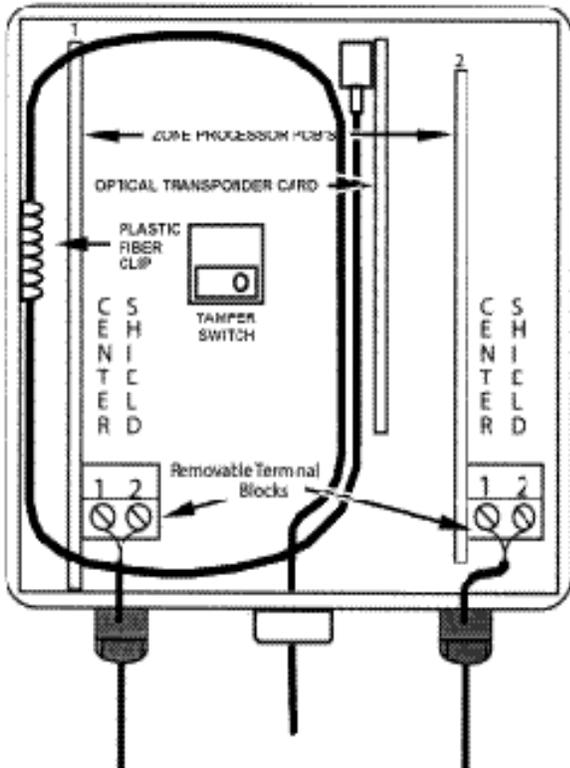

Figure 4. Transducer Cable Connections
- Connect each sensor cable to the processor as shown in Figure 4.